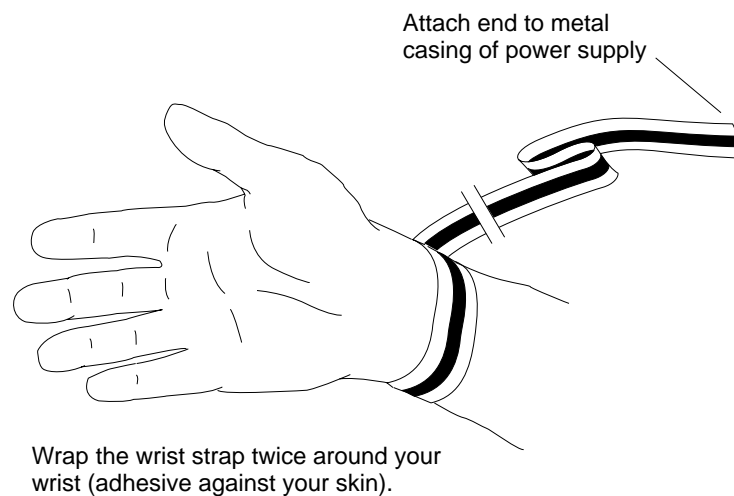

Figure 2-5 Attaching the Wrist Strap
1. Unwrap the first two folds of the wrist strap and wrap the adhesive side firmly around your wrist (Figure 2-5).